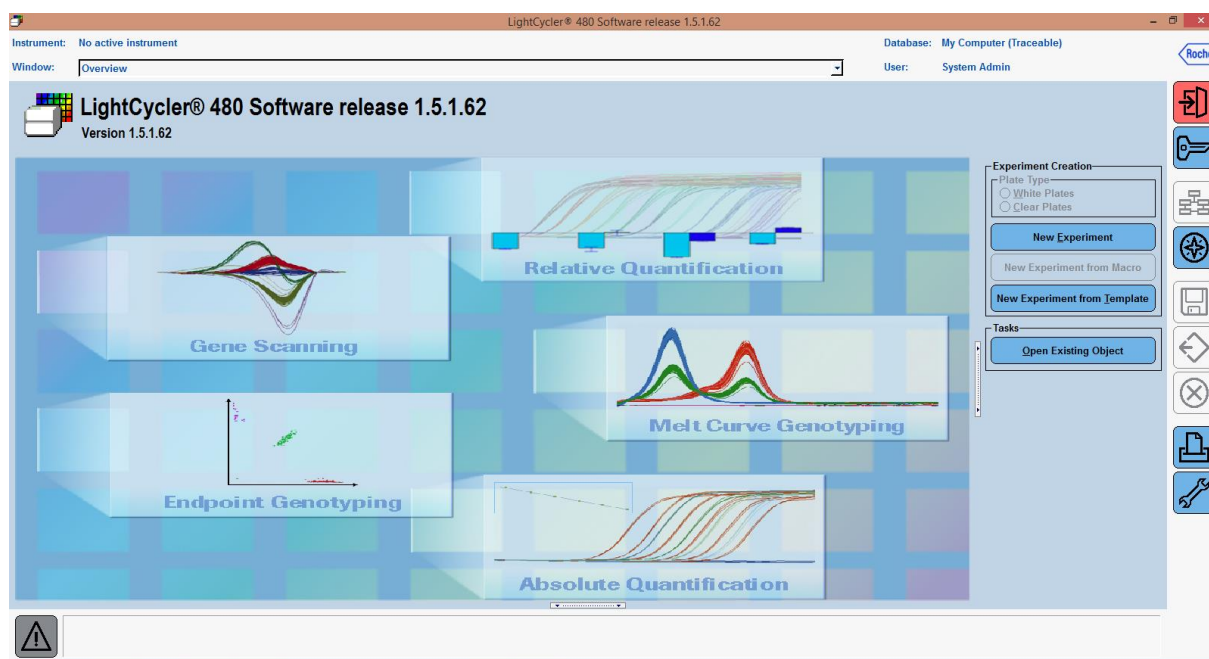

Figure 1: Overview window.
3. Enter “username” and “password” to login and proceed to the overview window (Fig. 1)
1. Start LightCycler480 II software and enter “Username” and “password” to log in and proceed to the Overview window (Figure 1).